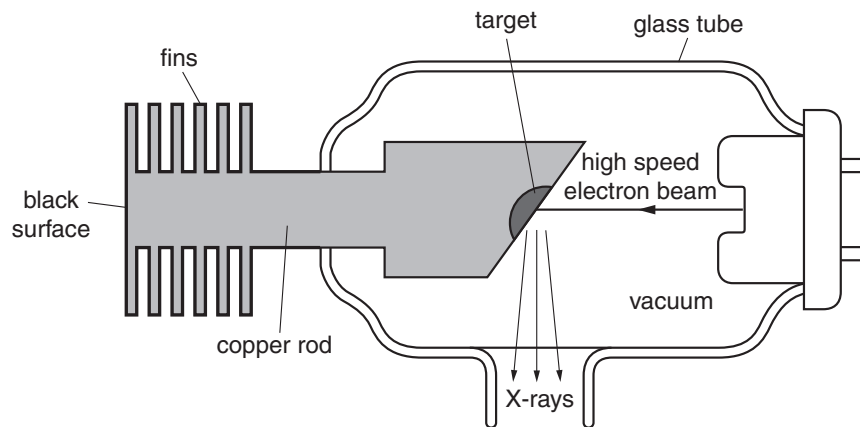

Fig. 5.1
- 6 Fig. 5.1 shows an X-ray tube.